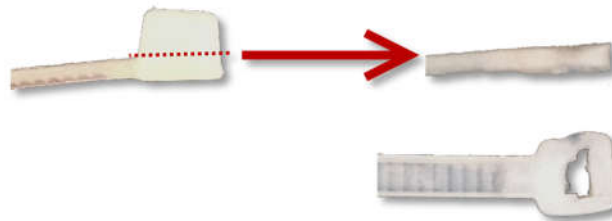

Figure 16: Zip-tie installed in servo spool
2. Install a zip-tie in the servo spool as per Figure 16.